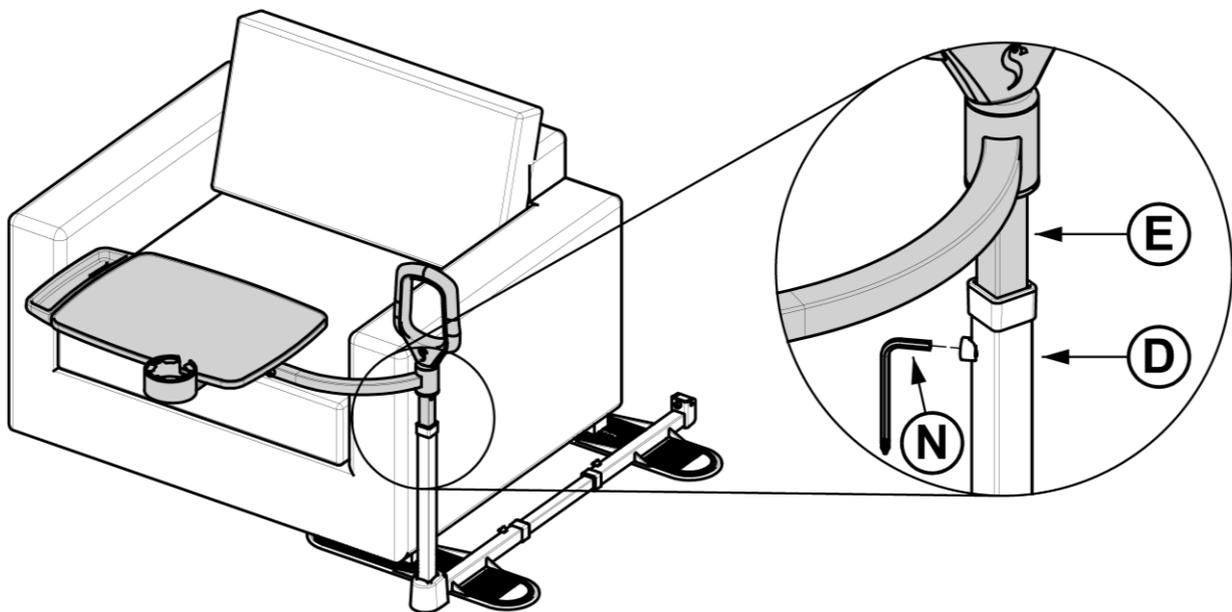

FIGURE 29
29. Adjust tray to desired height, ensuring Spring Button is engaged with a hole, and secure SET SCREW in Upright **D** with Tool **N** as shown in *FIGURE 29*.